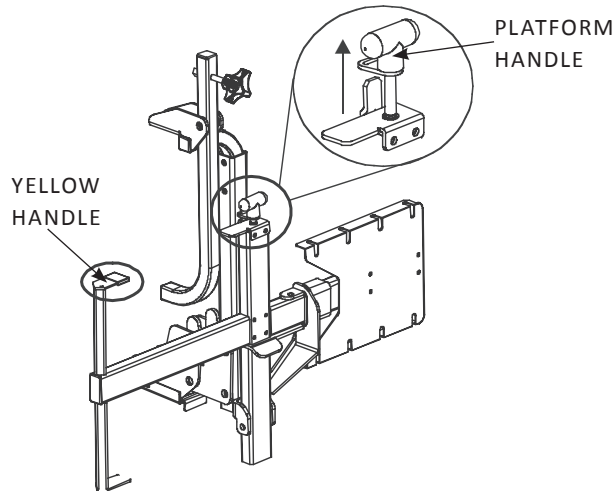

Figure 4-5
1. Pull up on the platform handle and hold the yellow handle. *See Figure 4-5.*